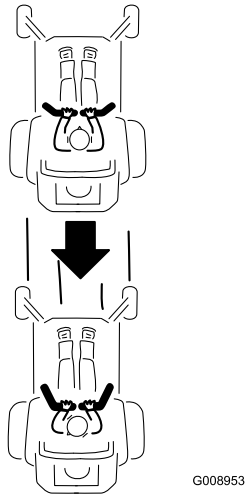

Figure 17
2. To go backward, look behind you and down, as you slowly pull the motion-control levers rearward (Figure 17).
To go straight, apply equal pressure to both motion-control levers (Figure 17).